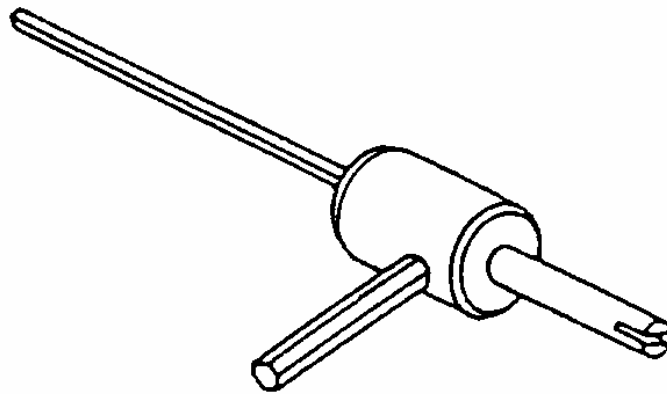

Figure 6-4. Syringe tool.
d. **Syringe Tool.** This tool incorporates a valve core tool, a 3/32-inch hex wrench for adjusting the syringe flow, and a 5/32-inch hex wrench for removing and installing the syringe tip insert. Refer to figure 6-4.